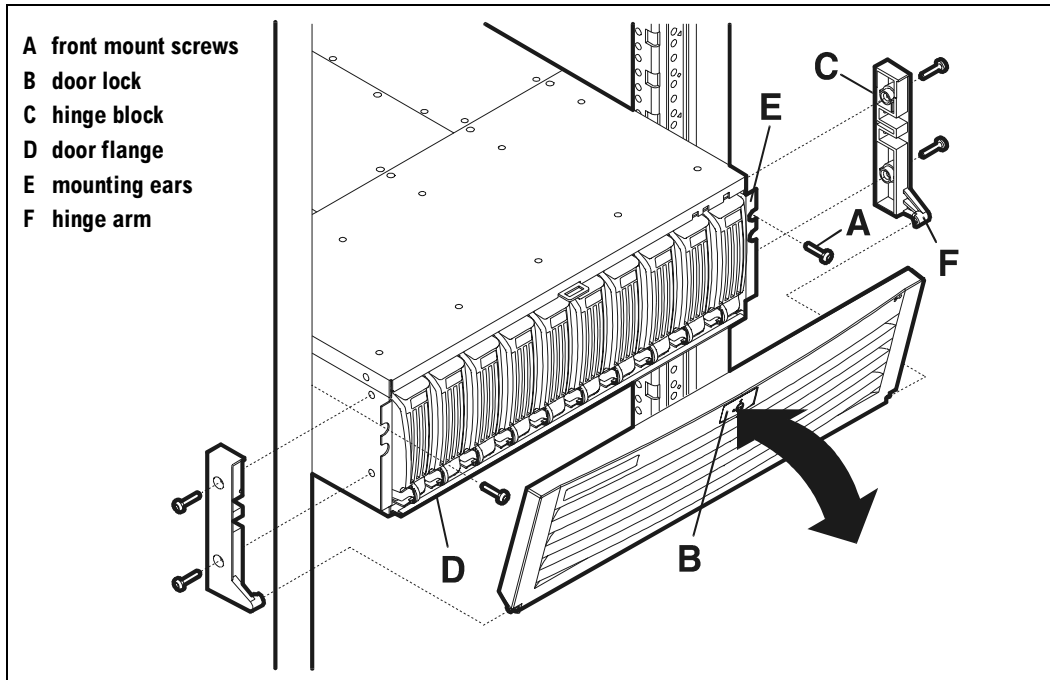

Figure 51 Door Removal and Replacement
2. Use the flat-blade screwdriver to unlock and open the disk system door (see Figure 51).
5. Remove the screws from the mounting ears (E in Figure 51).
2. With the door closed, remove two screws from each hinge block (C in Figure 51).